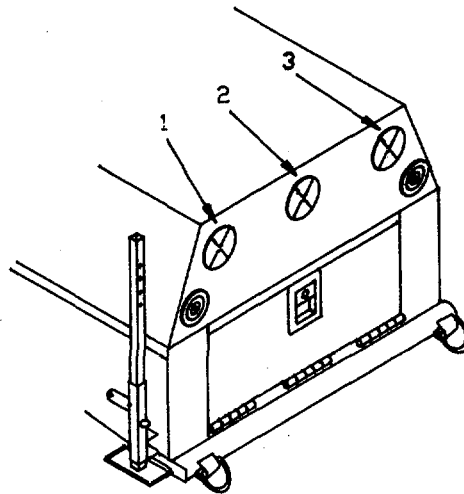

Figure 2-5. Trailer, Rear View.
- a. Open vent louvers (1, 2, and 3, Figure 2-5) located at rear of trailer for ventilation.